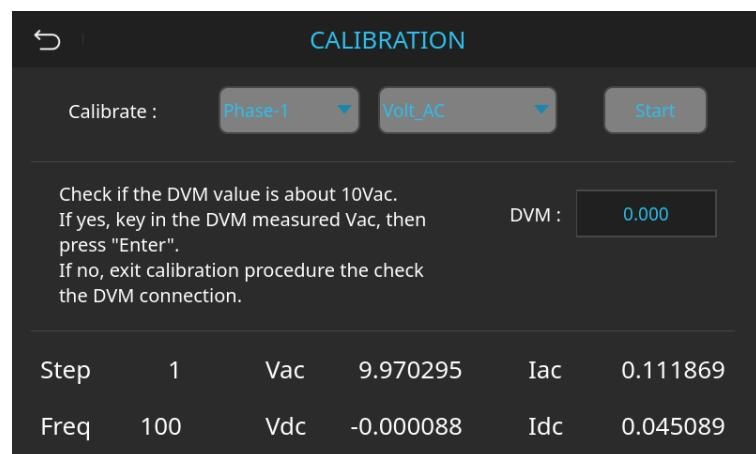
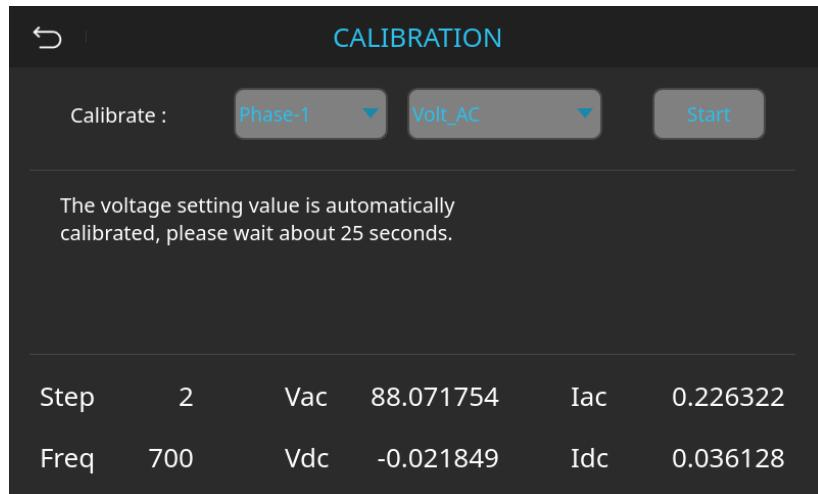

Figure 8-15 AC Output Voltage Calibration Procedure – Output at 10Vac
Figure 8-16 AC Output Voltage Calibration Procedure – AC Voltage Sweep Output
The user should use a Digital Voltmeter (DVM) to measure the AC output voltage (Vac) of the regenerative power system. At this stage, the output voltage will be approximately 10Vac (as shown in Figure 8-15), and the reading should be taken in volts (V). After measurement, enter the value into the DVM input field on the screen. Next, the device will automatically output approximately 100Vac, with the frequency sweeping from 100Hz to 3000Hz (as shown in Figure 8-16). During this step, no user action is required. After about 25 seconds, the screen will display a message indicating that the AC setting has been calibrated.